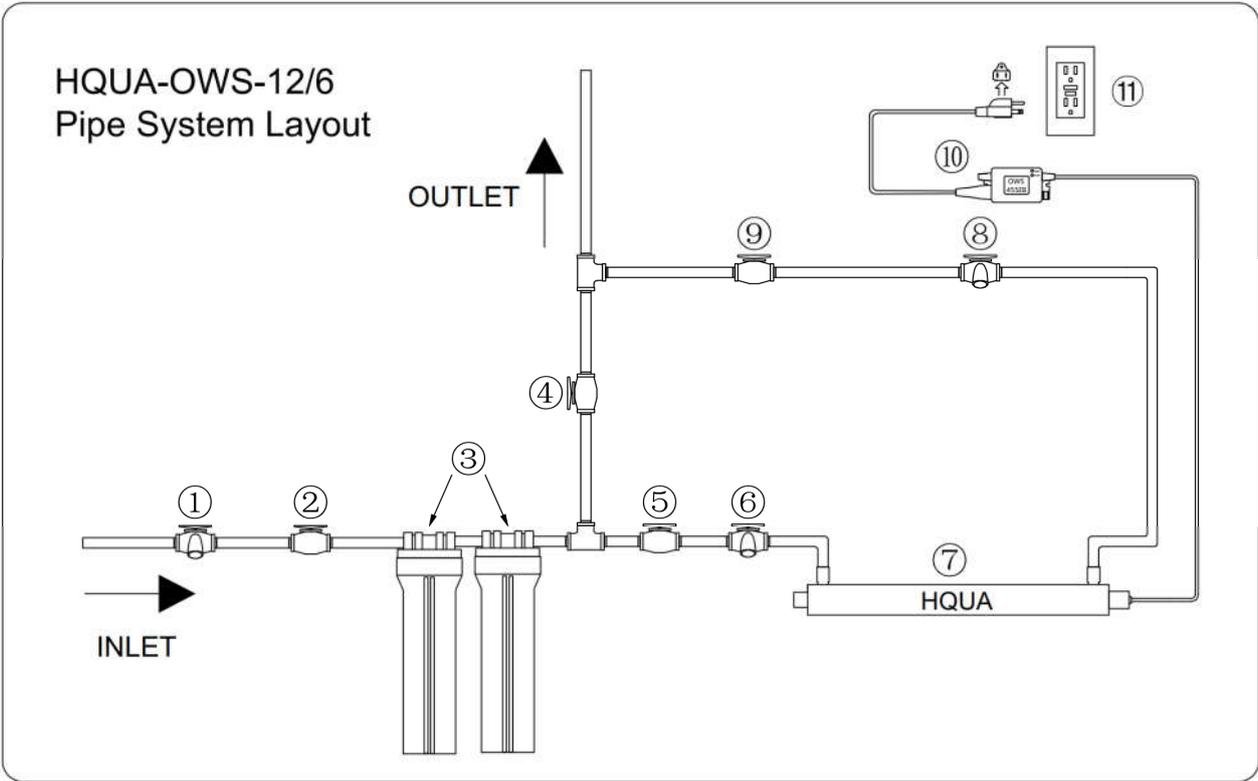

Figure 2 Layout of Pipe System
- Drain all lines around the system, refer to Figure 2.